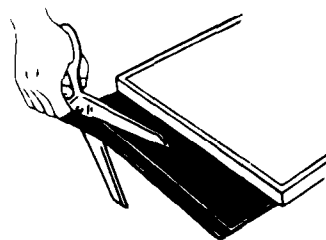

FIGURE 12
5. Use a pair of scissors and cut toe plate along this line. See Figure 12.